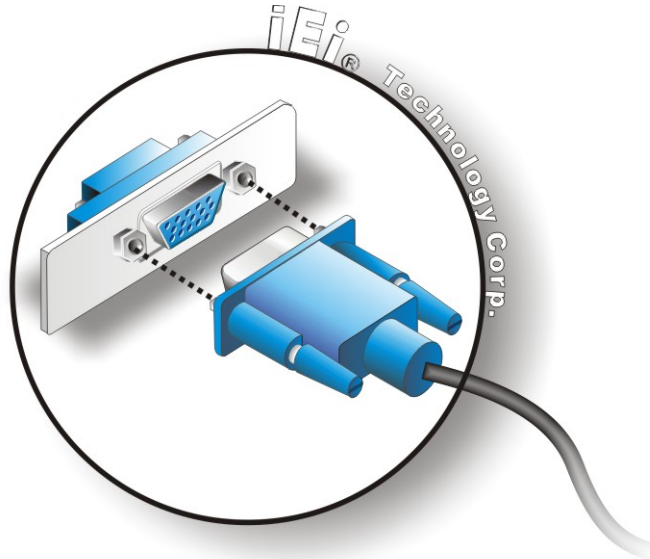

Figure 3-20: VGA Connector
Step 6: Insert the VGA connector. Once the connectors are properly aligned, insert the male connector from the VGA screen into the female connector on the ECN-581A-R11/QM57-I5. See **Figure 3-20**.